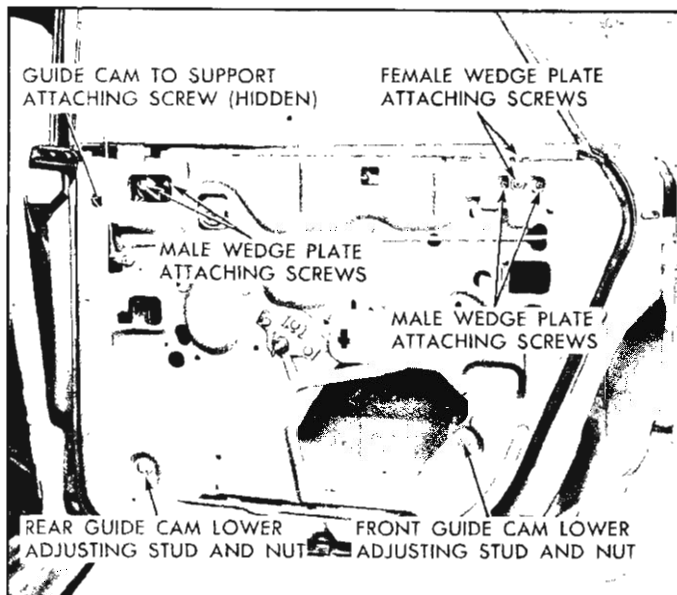

Fig. 15—Rear Door Assembly—"39" Style
2. Through inner panel access hole remove front guide cam upper attaching screw(s) and front guide cam lower adjusting stud and nut (see Figure 15).
2. Raise door window. Through inner panel access hole remove front guide cam upper attaching screw (see Figure 15).
3. At door hinge pillar facing, remove two (2) screws
securing guide cam support and remove support through access hole (see Figure 15).